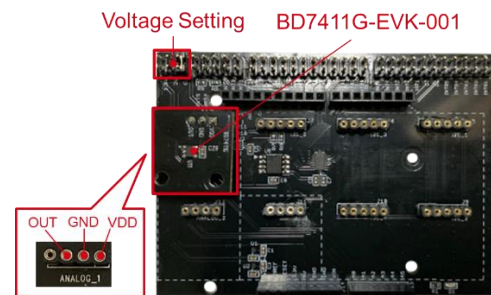

Figure 2. Voltage Setting and Connection of Shield for Arduino
2. Connect BD7411G-EVK-001 to the socket of I2C area on Shield for Arduino. (Figure 2)
3. Set the voltage of Shield for Arduino to 5V. (Figure 2)